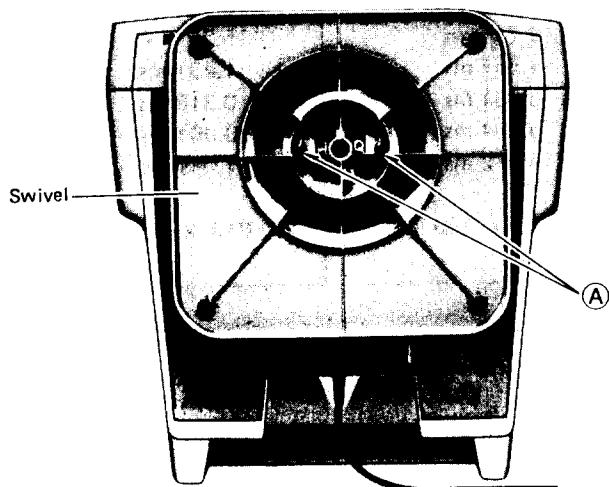

Figure 13
- a) Turn the unit rear side down with pedestal towards the front. (Figure 13)
- b) Remove 2 screws **(A)** from the swivel. (Figure 13)